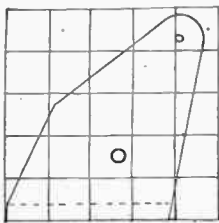

Fig. 7—Side of winding mechanism
To enable the worker to get an outline of the sides (K) we have included a squared diagram (3/4 in. squares). All he has to do, therefore, is to draw a series of ten squares and follow the lines through them, fixing also the positions of the holes shown in Fig. 7.